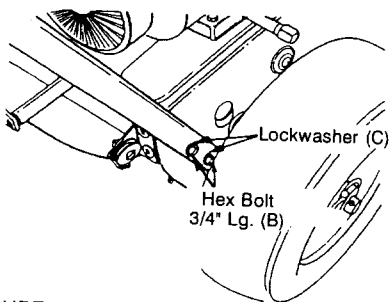

FIGURE 4
- Resting the lower handle on the floor behind the machine, line up the lower holes in the handle with the lower holes in the frame sides and secure with lockwashers (C) and hex bolts (B). See figure 4.
- Raise the lower handle up aligning upper holes in the handle with remaining hole in the frame. Secure to the frame with lockwashers (C) and hex bolts (B). See figure 4.